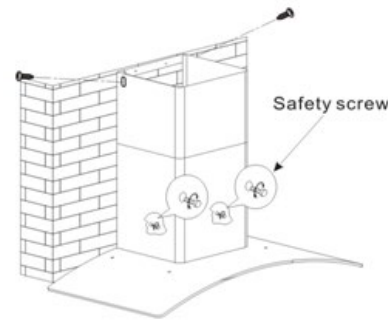

Fig. 07
5. Put the two chimneys together onto the cooker hood body, meanwhile adjust the height of the inside chimney into the suitable height, and fix the inside chimney to the inside chimney bracket by screw. Finally, fix the body with safety screw (Fig. 07).